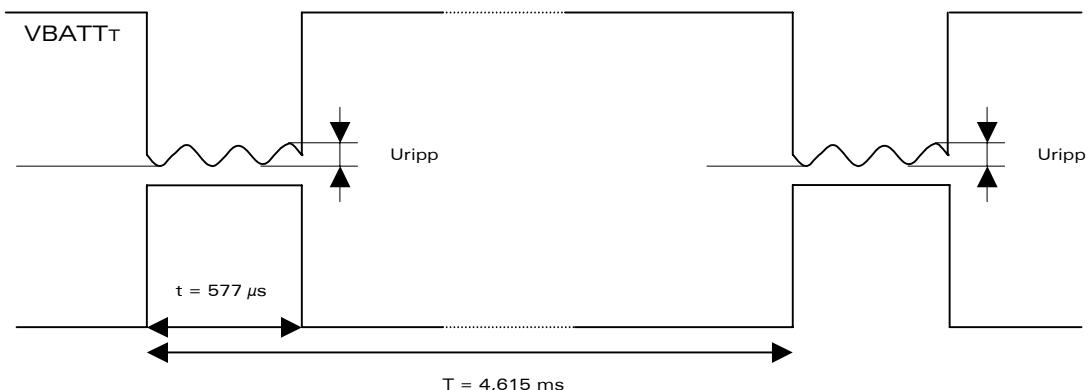

Figure 2: Power supply during burst emission
- In communication mode, a GSM/GPRS class 2 terminal emits $577\mu\text{s}$ radio bursts every 4.615ms . (see the Figure 2: Power supply during burst emission).